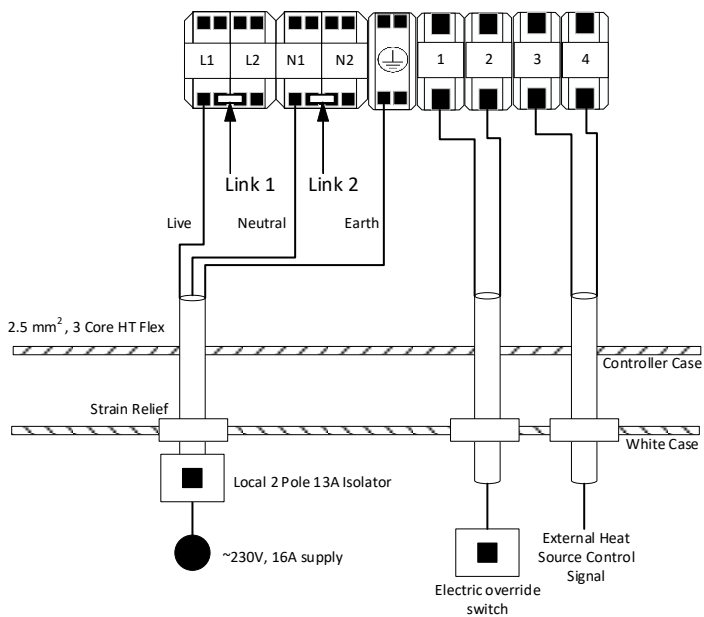

Figure 12.2: HW +i system wiring
- Wire a 2 core PVC insulated cable (minimum 0.75mm2 CSA, 24 x 0.2mm according to BS 6500) from a 2-pole switch, run the wire into the appliance via the appliance case cabling grommets and then into the control box housing through the hole available. Secure the cables in Terminal T1 & T2 independently (Figure 12.2).